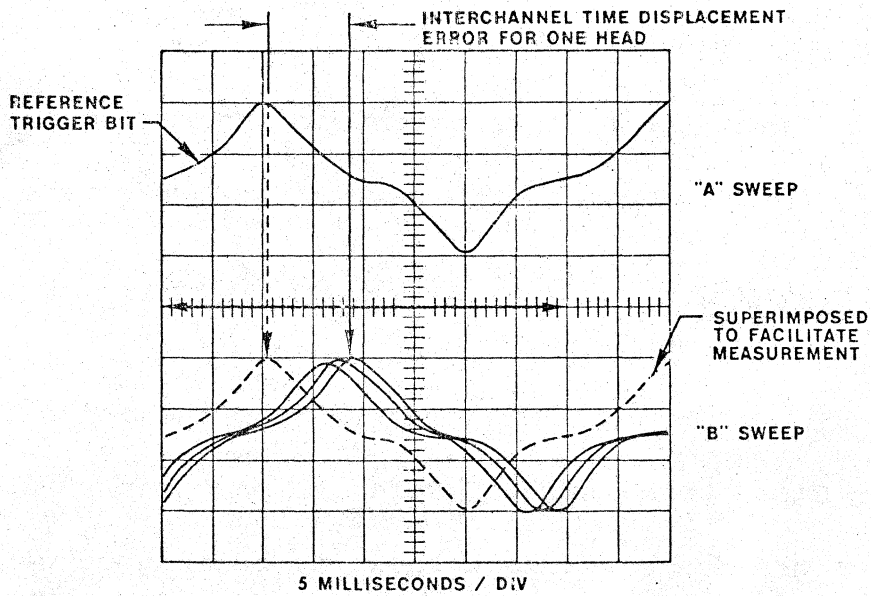

Figure 5-9.
Step 2: Depress the FORWARD DRIVE switch. A presentation such as is shown in Figure 5-9 should appear on the oscilloscope.